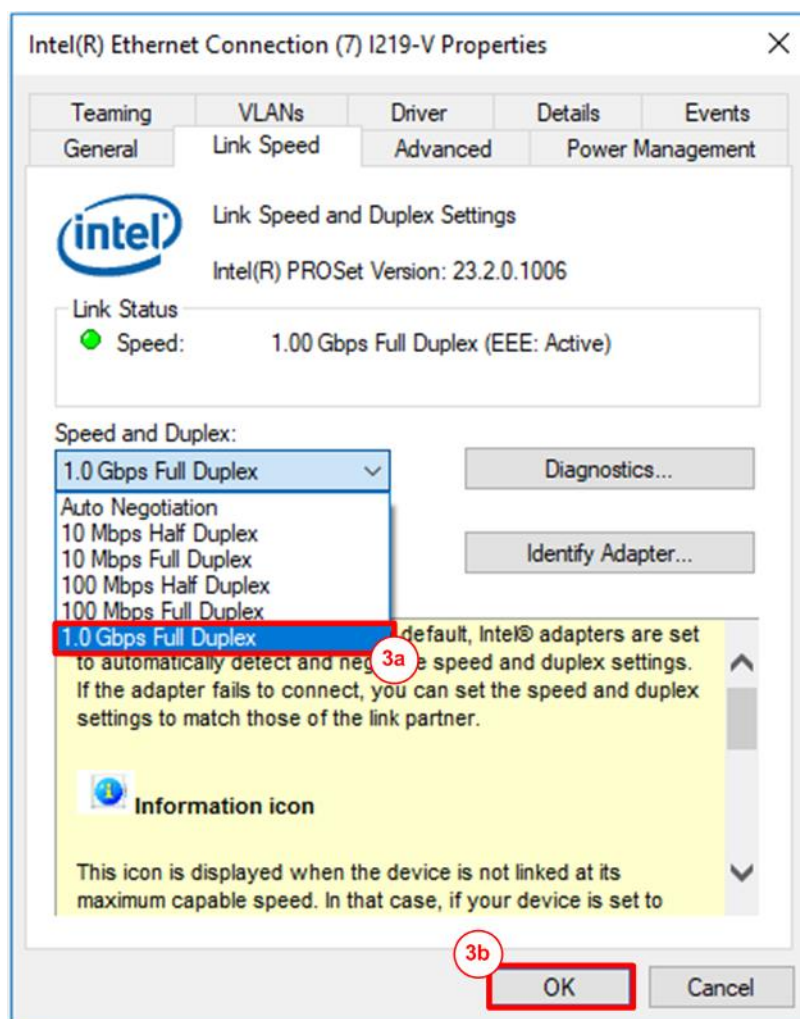

Figure 2-5 Set link speed = 1 Gbps
3) On Link Speed, select “1 Gbps Full Duplex” and click OK button, as shown in Figure 2-5.